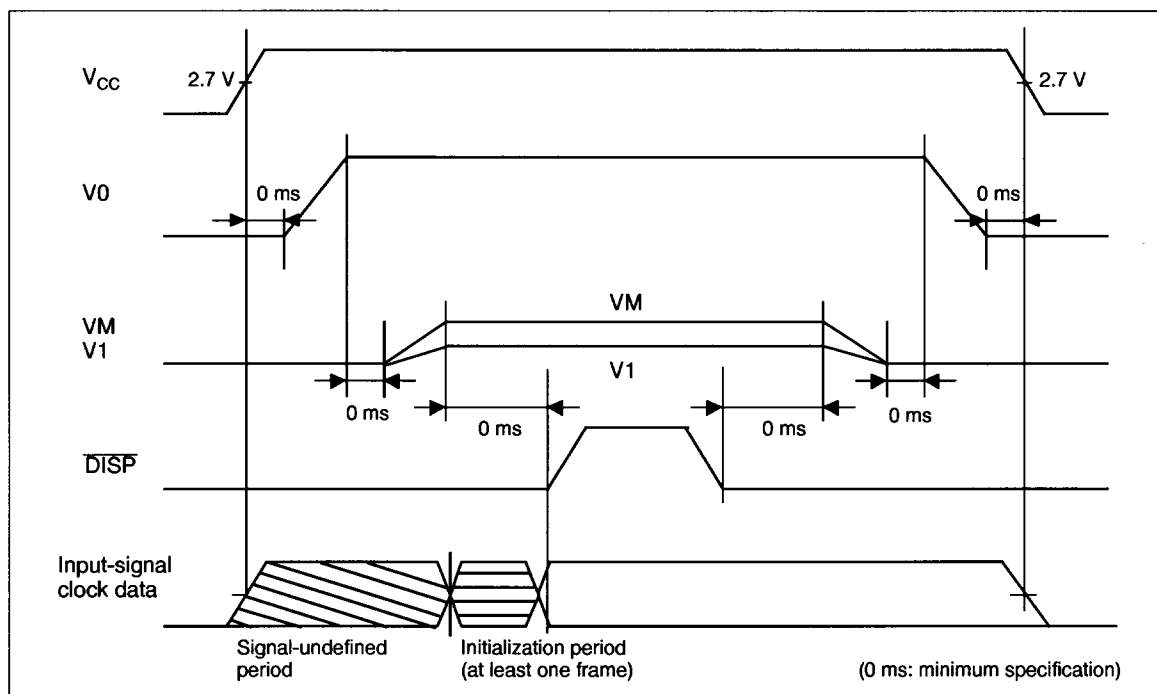

Figure 14 Turn-on and Turn-off Timing
5. As shown in figure 14, users should conform to the following turn-on/off sequence for the power and signals. Otherwise, the LSI will malfunction or will be permanently damaged. In addition, the LSI reliability will be affected.